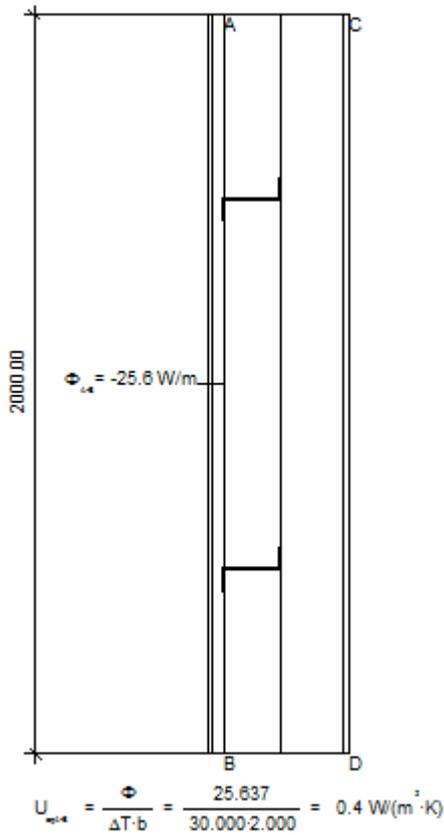

Figure 2
- equivalent U-values should only be calculated for constructions where thermal bridges appear periodically (cf. figure 2).